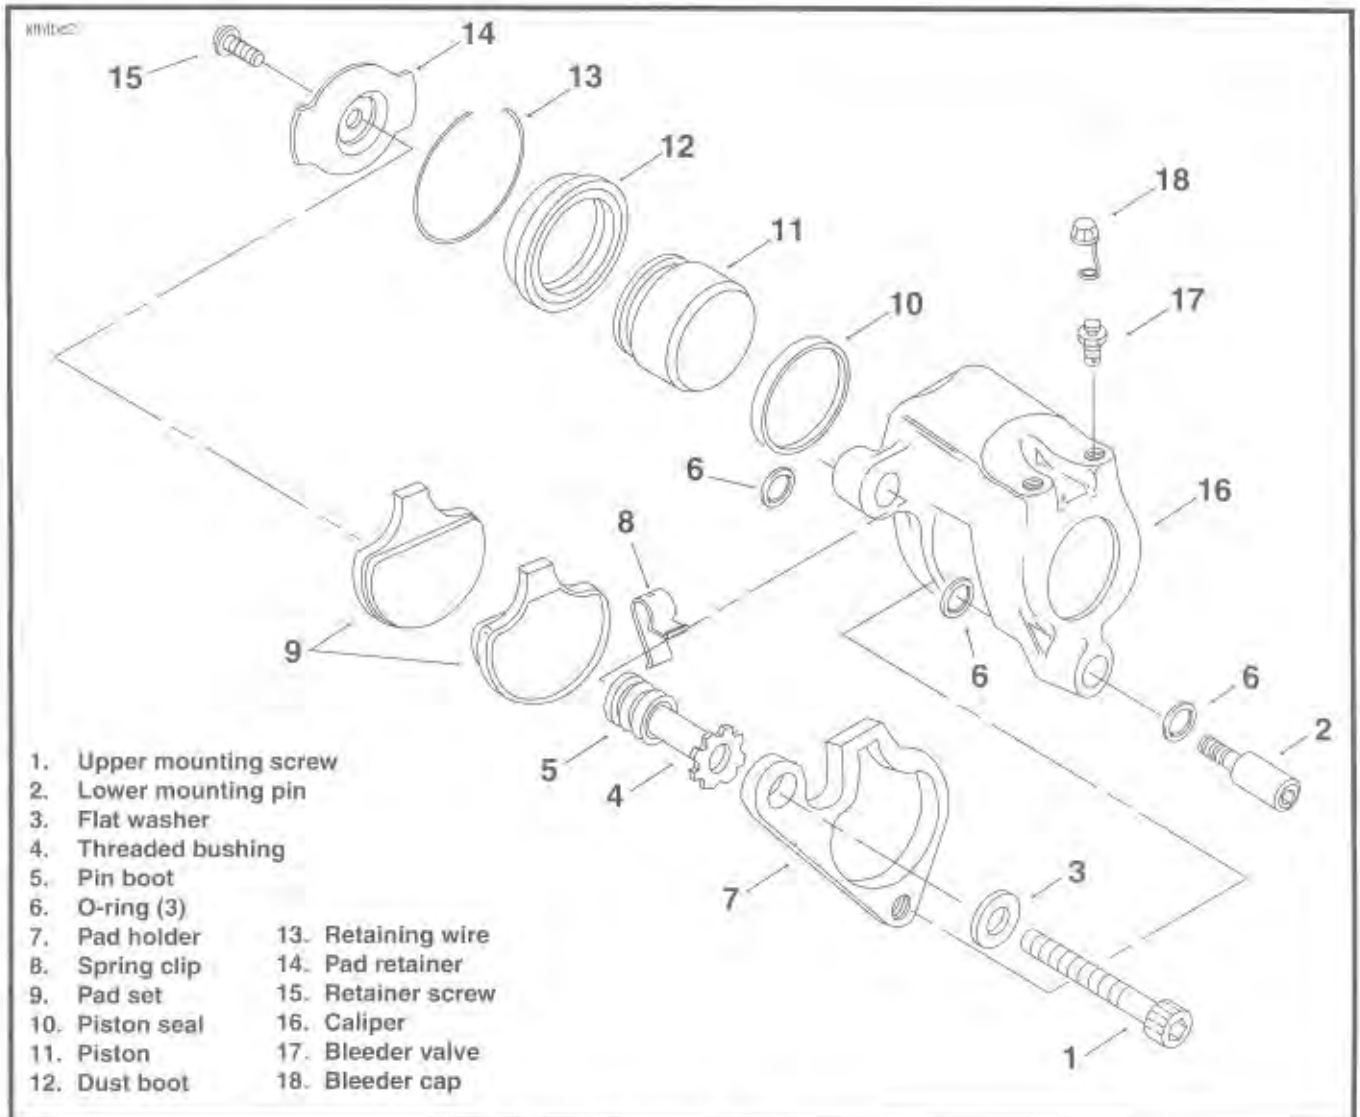
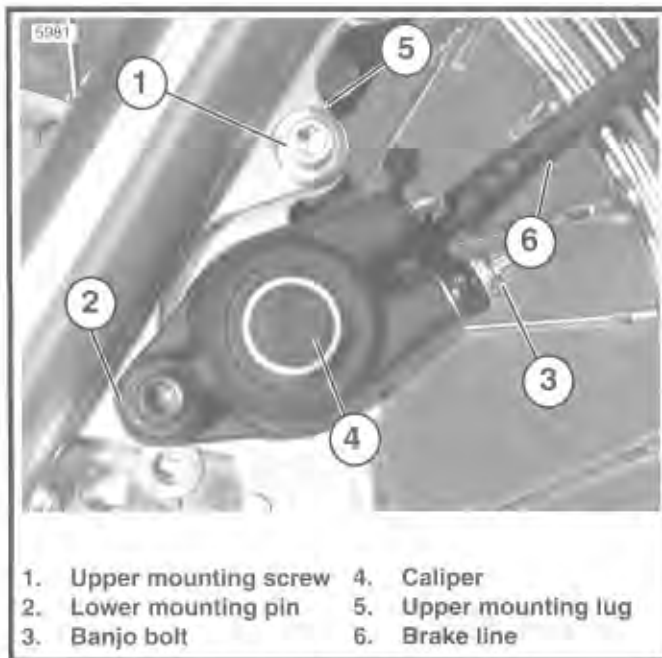

Figure 2-50. Front Brake Caliper
Figure 2-52. Front Brake Caliper Mounting
(Figure 2-50)
CLEANING, INSPECTION AND REPAIR (Figure 2-50)
1. See Figure 2-50. Install **new** seal (10) in groove of caliper piston bore (16). Install **new** O-ring (6) in groove of threaded bushing bore. Install **new** O-rings (8) in each groove of lower mounting pin bore. Apply DOW CORNING 44 GREASE (tube marked "PIN LUBE" in service parts kit) to interior cavity of pin boot (5). Insert flanged end of pin boot in groove of threaded bushing bore.
2. Install dust boot (12), with its concave side facing piston (11), over top of piston. Seat the inner lip of dust boot in groove at top of piston.
3. Apply light coat of NovaGard silicone grease (marked "PISTON LUBE" in service parts kit) to piston O.D., including chamfer. Apply a light coat to caliper piston bore (16) and I.D. of installed piston seal (10). Install piston (with dust boot) into caliper piston bore. Use a "C" clamp to press in piston, if necessary.
7. See Figure 2-50 and 2-51. Lay down pad holder (7) on a firm flat surface with upper mounting screw (threaded bushing) hole positioned at the upper right.
8. Hook lip on looped end of clip (8) under inside edge of pad holder at top. Holding pad holder down, raise clip to snap in place on pad holder. Pick up pad holder to verify that clip is firmly attached. Lay pad holder back down in the same orientation.
9. With black insulator backing facing pad holder, center outboard pad (9) within pad holder. In this position, tang of pad rests on clip loop while bottom of pad slightly enters opening of pad holder. Push down on tang until pad lies flat. Pick up pad holder to verify that pad is firmly attached. One lip on clip should be caught on pad holder, the other on tang of pad.
- See Figure 2-50. Insert the assembly (outboard pad, pad holder and spring clip) into place on caliper (16) with insulator side of pad against face of piston (11).
- See Figure 2-50. Apply light coat of DOW CORNING 44 GREASE (marked "PIN LUBE" in service parts kit) to O.D. of lower mounting pin (2).
- See Figure 2-52. Position caliper (4) so that brake disc is situated between friction pads and lower mounting hole in caliper is aligned with lower mounting lug on front fork.
- See Figure 2-50. Insert lower mounting pin (2) through caliper (16) and front fork lower mounting lug. Thread pin into tapped hole at lower end of pad holder (7). Tighten pin to 25-30 **ft-lbs** (34-41 Nm) torque.
- Install upper mounting screw (1) with spacer washer (3) through front fork upper mounting lug and pad holder (7). Thread the screw into threaded bushing (4). Tighten screw to 25-30 **ft-lbs** (34-41 Nm) torque.
- Install bleeder valve (17) and valve cap (18), if removed. Tighten valve to 80-100 **in-lbs** (9.0-11.3 Nm) torque.
- See Figure 2-52. Connect brake line (6) to caliper using **new** steel/rubber banjo washers. Tighten banjo fitting bolt (3) to 17-22 **ft-lbs** (23-30 Nm) torque.